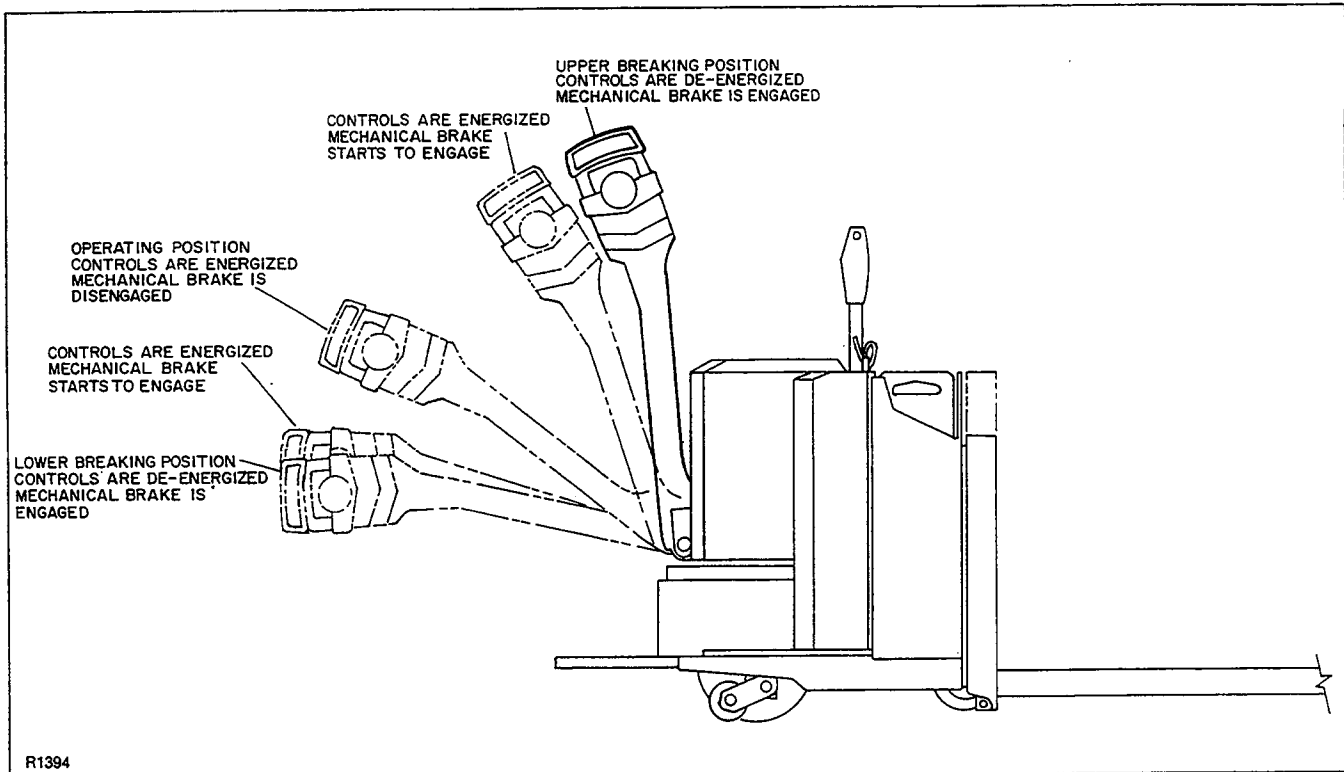

Figure 2-3. Mechanical Brake Application
a. Mechanical Brake. (Figure 2-3)
When the steering arm is moved to the vertical or horizontal position, the mechanical brake is applied (see figure 2-3). All traction power is shut off in these positions. By leaving the steering arm in the upright position, the mechanical brake acts as a parking brake. When released, the handle is raised to the upright position by spring action so that dead-man braking occurs.